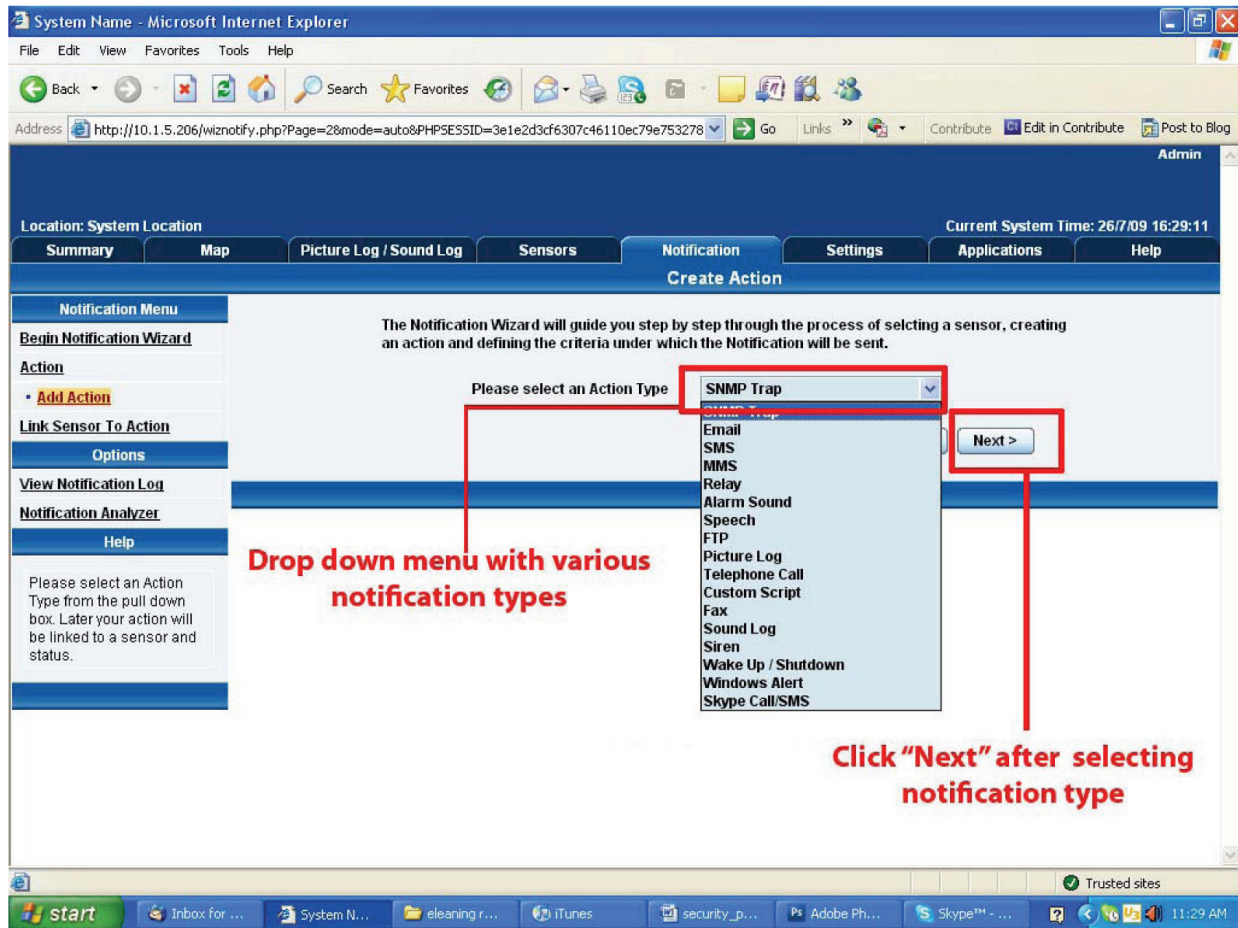

Figure 4-2. Notification Wizard page.
4. The Notification Wizard page (see Figure 4-2) is displayed.